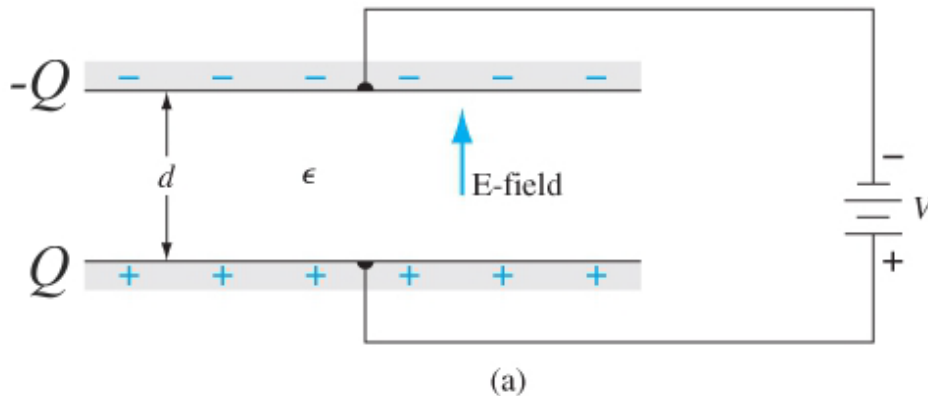

Figure 10.2 | (a) A parallel-plate capacitor showing the electric field and conductor charges.
Figure 10.2 | (b) A corresponding MOS capacitor with a negative gate bias showing the electric field and charge flow. (c) The MOS capacitor with an accumulation layer of holes.
- At steady-state as shown in Fig 10.2(c), there is a linear relationship between positive stored charge Q (in what is called the **accumulation layer**) and applied voltage V given by $Q = CV$.
- Here, $C = \epsilon_{ox} A / t_{ox}$ (F) and the electric field in the oxide is $E = V / t_{ox}$ (V/m or V/cm). [As before, $E \sim 0$ in the p type substrate.]